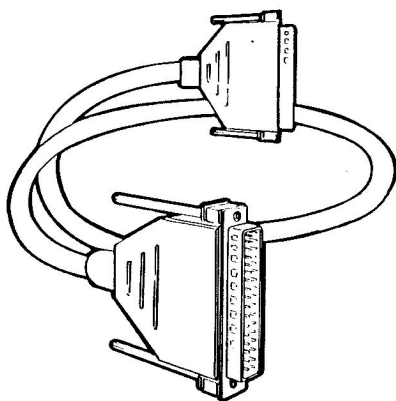

Fig. 5 Input/output cable
- The input/output (I/O) cable, depicted in Figure 5.